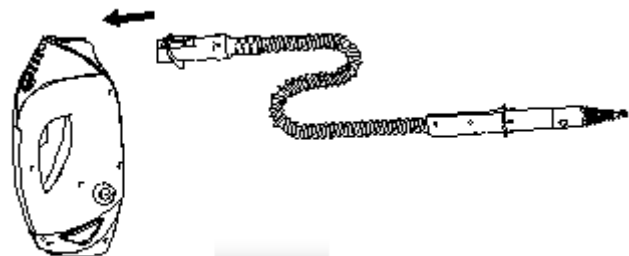

fig.15
- To use the Accessory Hose, First attach the Accessory Hose to the Hand Held Steam Cleaner until it clicks into place.(fig.15)